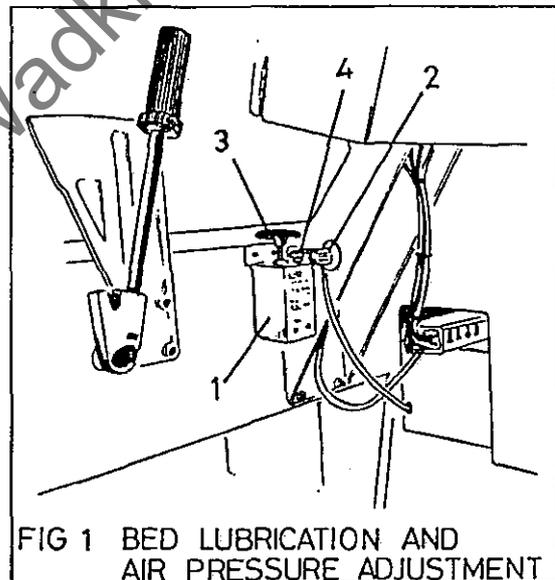
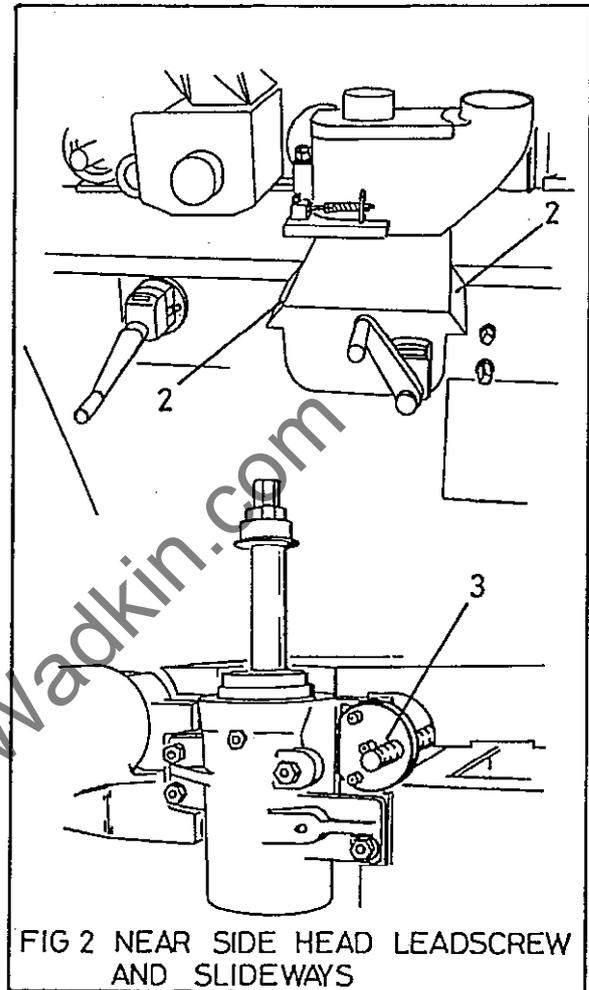
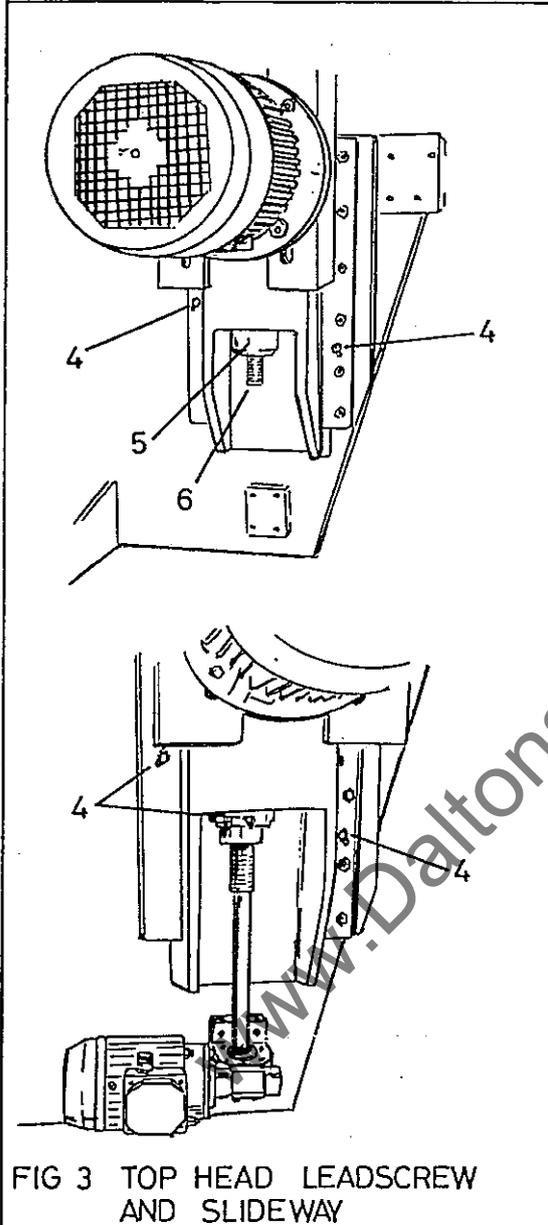
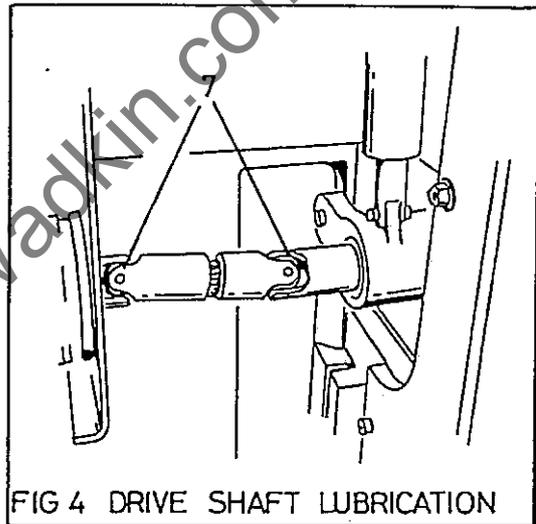

FIG 1 BED LUBRICATION AND AIR PRESSURE ADJUSTMENT
FIG 2 NEAR SIDE HEAD LEADSCREW AND SLIDEWAYS
FIG 3 TOP HEAD LEADSCREW AND SLIDEWAY
FIG 4 DRIVE SHAFT LUBRICATION
Lubrication and Cleaning (Fig 1, Fig 2, Fig 3, Fig 4)
- (v) From the front of the machine unscrew the worm adjusting shaft and then the barrel lock shaft (see General Operating Instructions - Fig 4).
- (vii) Supporting the weight of the spindle unit unscrew the four capscrews (13) holding the spindle barrel bracket. Lift the unit upwards and tilt slightly forwards. When the pulley is clear of the motor withdraw unit rearwards.